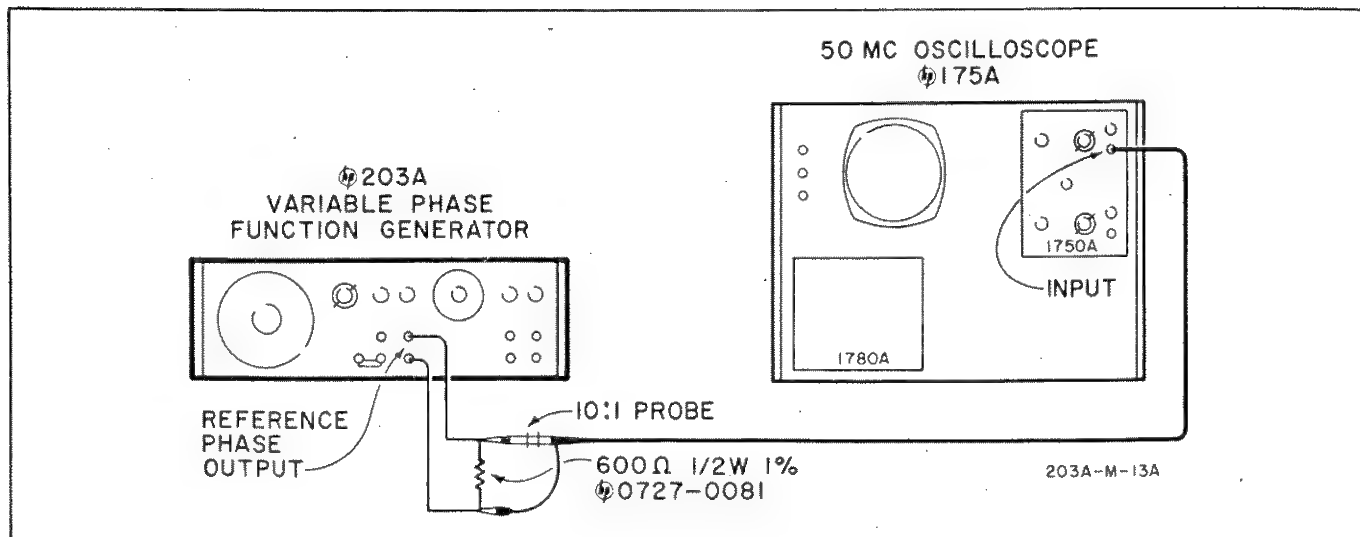

Figure 5-4. Square Wave Check
- Connect Model 203A as shown in figure 5-4.